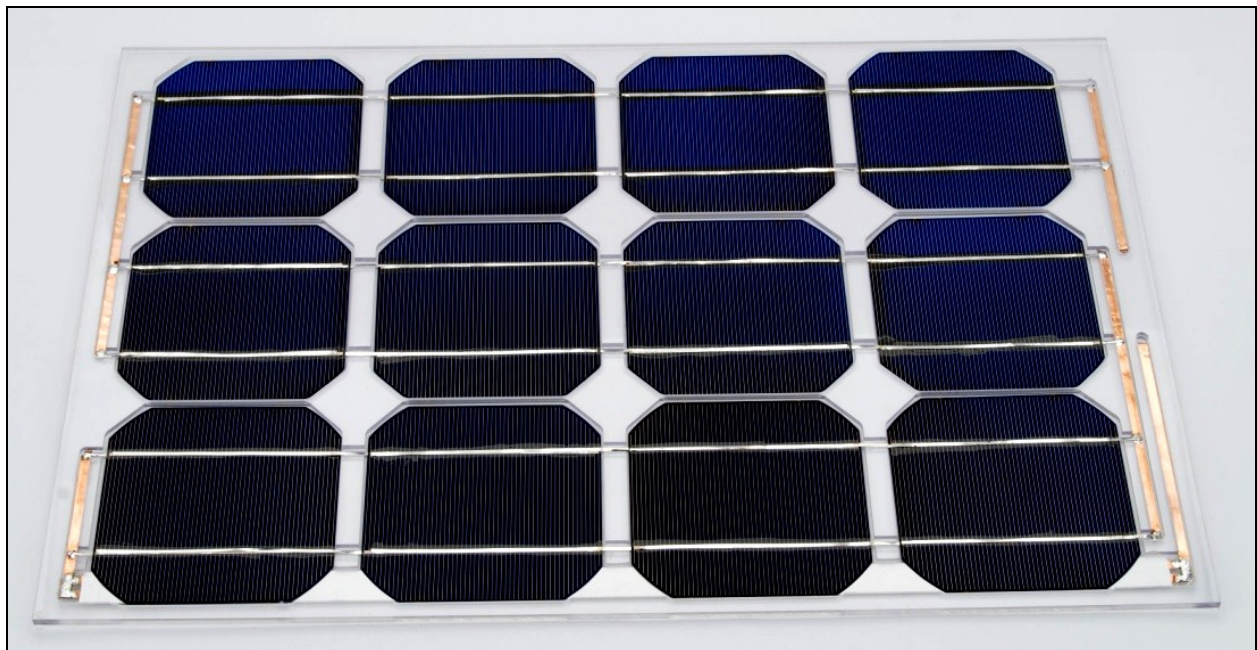

Figure 32
- ✓ Then finish the cell installations by making all final solder connections, as shown in Figure 32.